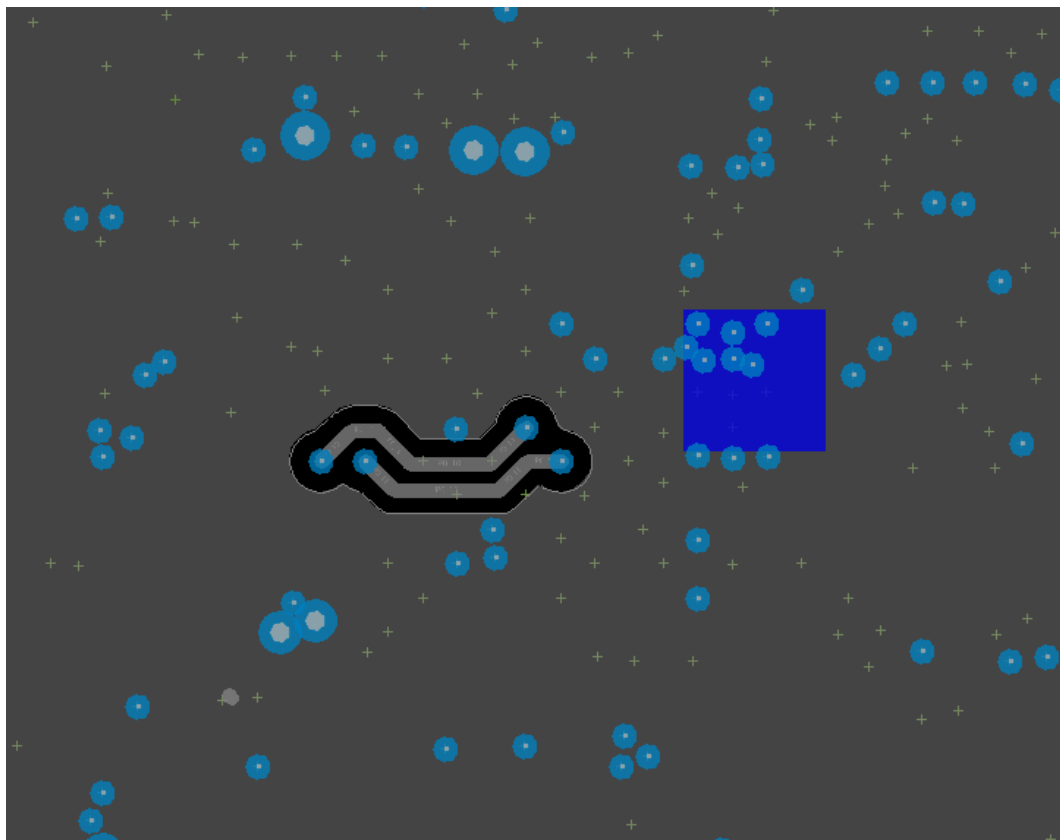

Figure 22. L4 bottom layer, RA6W1 - WLCSP
- L4 bottom layer is clear from traces as much possible. This layer is used as a GND shield for EMI purposes, see Figure 22.